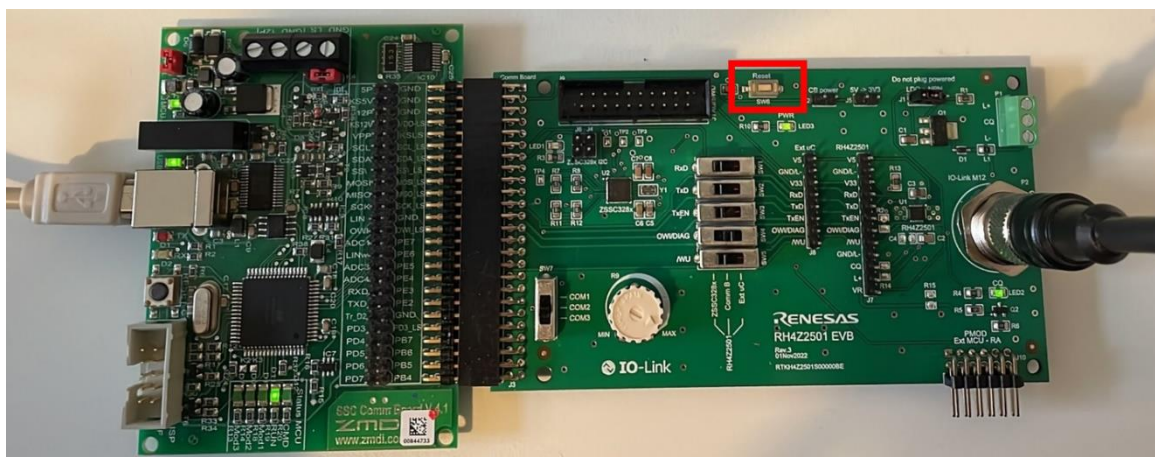

Figure 10. Reset by SW6
- b. Press Switch 6 to reset the ZSSC328x firmware (see Figure 10).